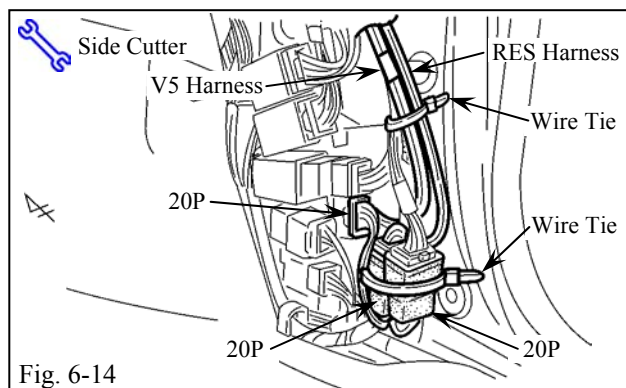

Fig. 6-14
- (u) Secure the V5 Harness and V4 Harness to the Vehicle Harness with 1 Wire Tie. Secure the Blue 20P Connectors to the Vehicle Harness with 1 Wire Tie. (Fig. 6-14)